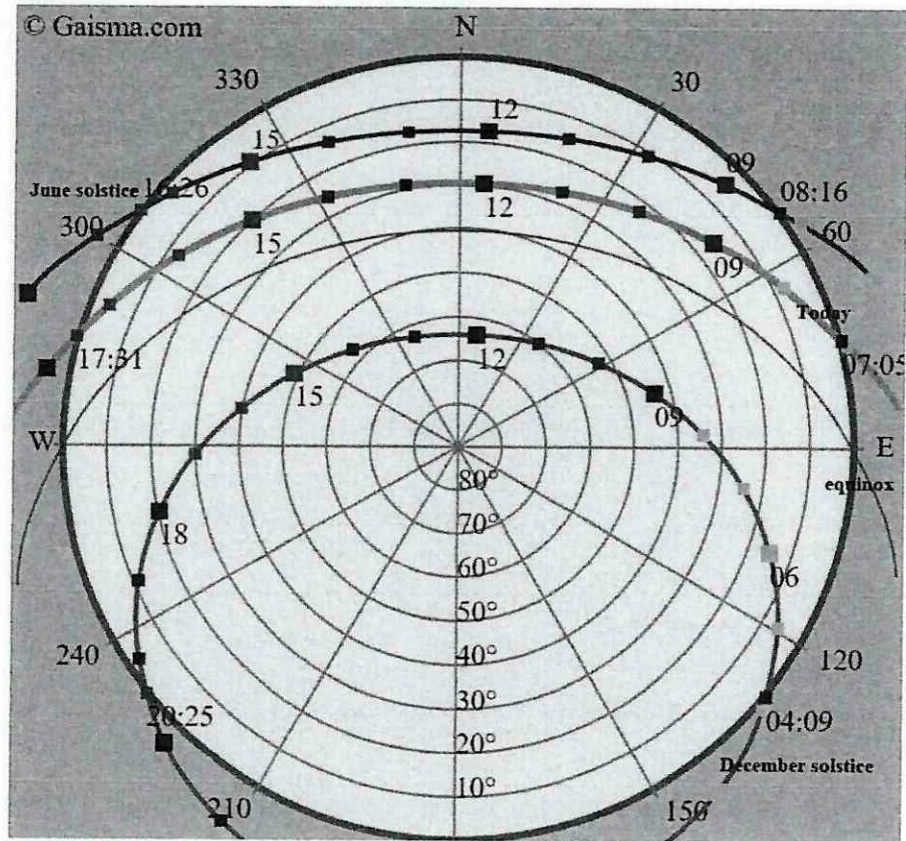

Figure Q1.1 Sun Path for a Location
(c) **Figure Q1.1** shows the sun path diagram for one location on 18/4/2024. From the diagram:
- (iv) Based on the sun path in **Figure Q1.1**, suggest **TWO (2)** photovoltaic (PV) system design that are suitable for this location with justifications. (4 marks)